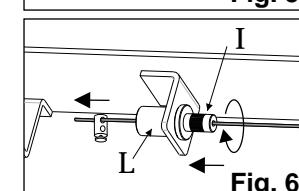

Fig. 6
10. Tighten thumb nut on cable fastener "I",Fig.6. Coil excess cable in approximately a 1-2 cm (3") diameter loop, tie with nylon cable tie and trim off tie tail.
13. Slide canopy up and reinstall (2) canopy mounting screws first making sure all wires are inside canopy and are not being pinched.
6. Aregolazione ultimata riavvitare il pernetto "I" **Fig.6** e tagliare il cavetto in eccedenza a circa 1-2 cm dal bloccafilo "L".
6. **Abb.6** Nach der Fixierung, den Zapfen "I" festschrauben und das überflüssige Kabel ca.1-2 cm.vom Kabel-Block "L" abschneiden.
6. **Fig. 6** A réglage terminé, revisser le pivot "I" et couper le câble de trop à 1-2 cm du passe-fil "L".
6. **Fig. 6** Después de haber arreglado la altura, atornillar nuevamente el tornillo "I" y cortar el cable en exceso a 1-2 centímetros del prisionero "L".